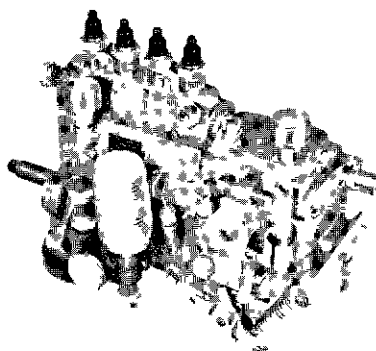

Fig 3-146 Stop Lever
The stop lever (67) is provided on the governor housing side, and the control rack is pulled back up to the stopping position by the arm (71) which is installed on the same shaft. Also when the hand is released the stop lever will automatically return to driving position by the return spring (73). (Refer to Fig 3-146)